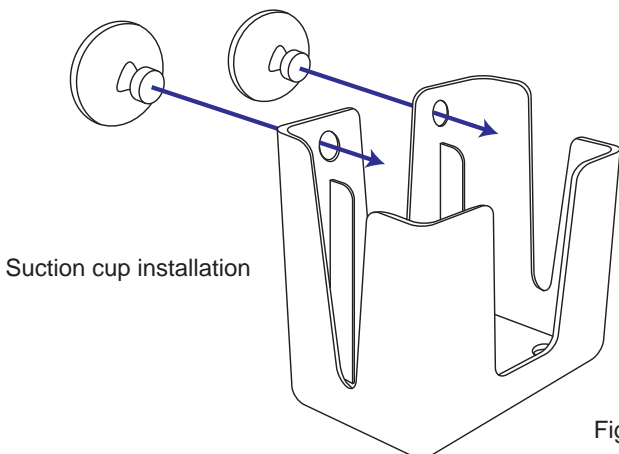

Figure 2
- 3a. If you plan to remove or relocate the cradle antenna at some point, use the suction cups provided in Packet A. Using a twisting motion, press the suction cups into the two holes on the antenna cradle (see Figure 2), then press the cradle onto the glass at the desired location.